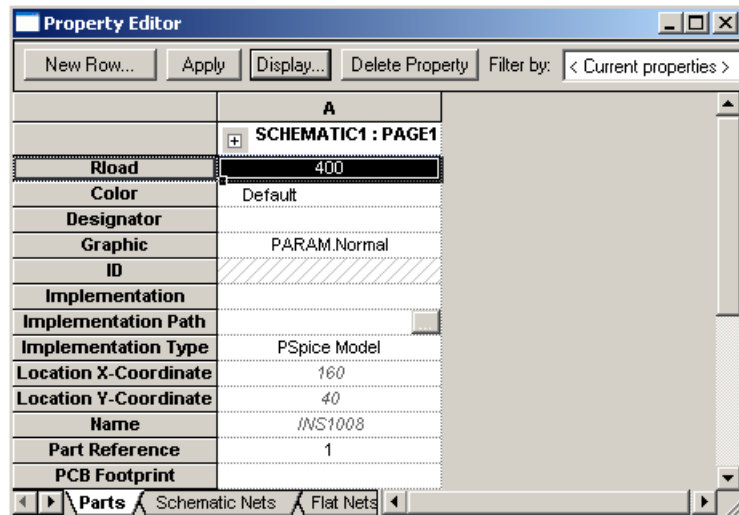

Figure 19: Property editor for a parameter block. A new parameter Rload has been added with a default value of 400.
- Double-click the PARAM block or right-click it and choose the Edit Properties... contextual menu item. This brings up the Property Editor or spreadsheet for the component, shown in figure 19. Sometimes it comes up as a row rather than a column, If this happens, right-click in the empty cell at the top left (to the left of A) and choose Pivot.